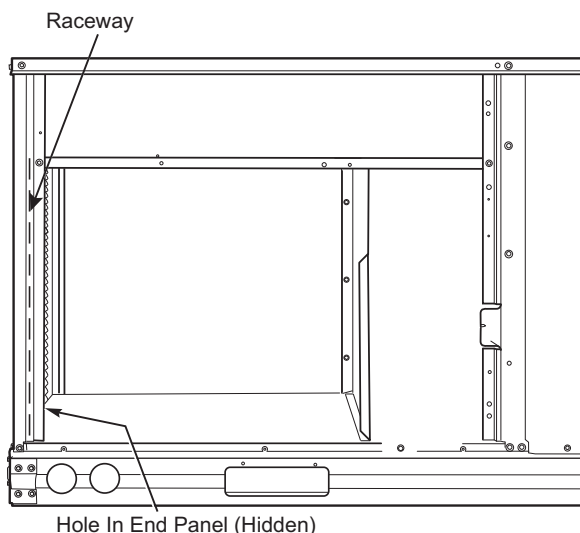

Fig. 36 — Field Control Wiring Raceway
Pass the thermostat control wires through the hole provided in the corner post; then feed the wires through the raceway built into the corner post to the control box. Pull the wires over to the terminal strip on the upper-left corner of the Unit Control Board. See Fig. 36.
2. Feed wires through the raceway built into the corner post (refer to Fig. 36) to the 24-v barrier located on the left side of the control box. The raceway provides the UL-required clearance between high-voltage and low-voltage wiring.